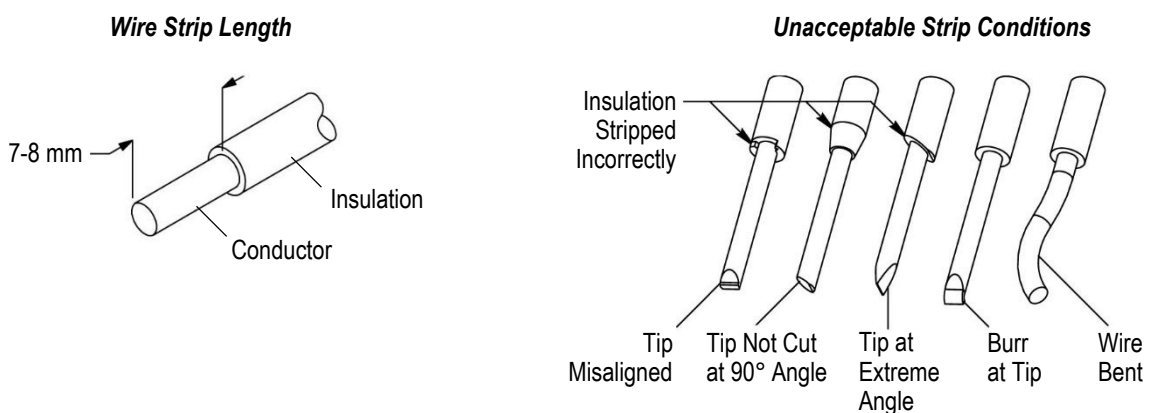

Figure 2
The LED holder accepts solid wire sizes 20 and 18 AWG with a maximum insulation diameter of 2.3. It is recommended to use Underwriters Laboratories Inc. (UL) Appliance Wiring Material (AWM) Style 1007 or 1061. The wire must be stripped within the dimensions provided in Figure 2.